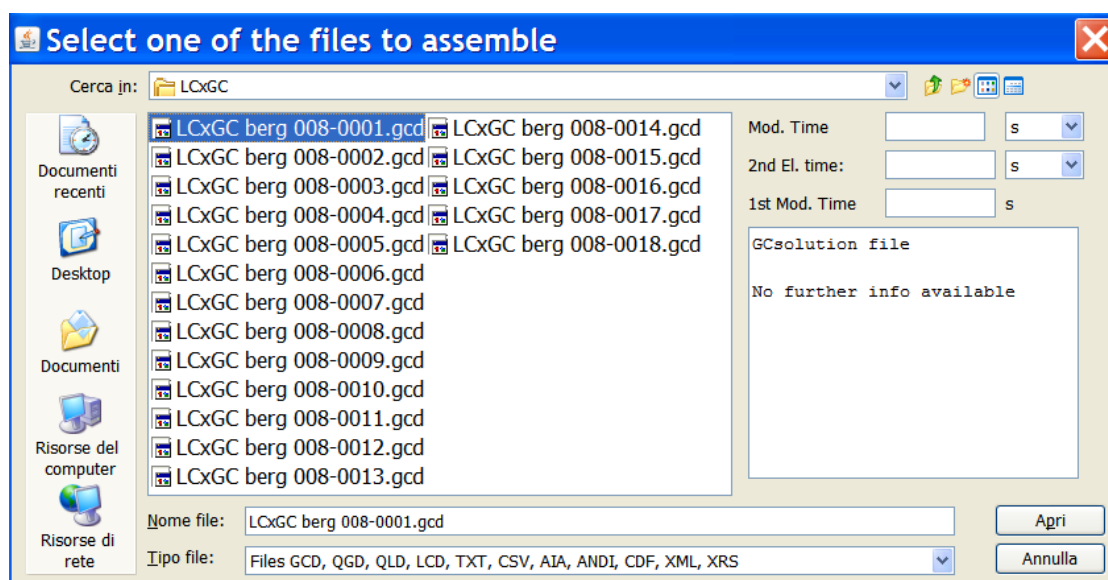

Figure 10.11: The File selection Dialog box of the Assemble case
1. Select the menu item **File | Assemble Datafile**; a File Selection Dialog Box , with the title **Select one of the files to assemble**, will appear. See Figure 10.11.